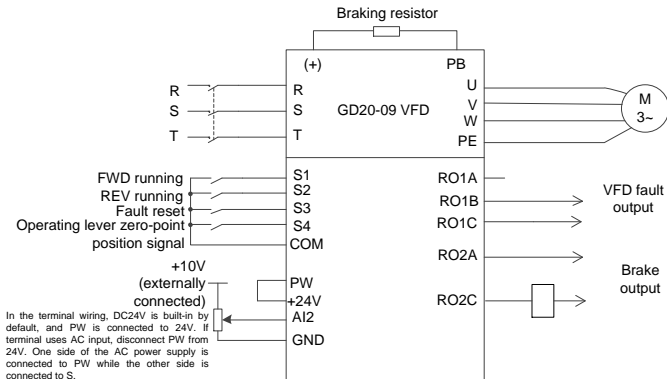

Figure 4-5 Wiring for analog reference operating lever
**Note:** Perform the wiring according to Figure 4-5. If the onsite function terminals are inconsistent with the terminals shown in the figure, manually adjust the input and output terminal functions according to the actual wiring (select 0–10V for operating lever analog).